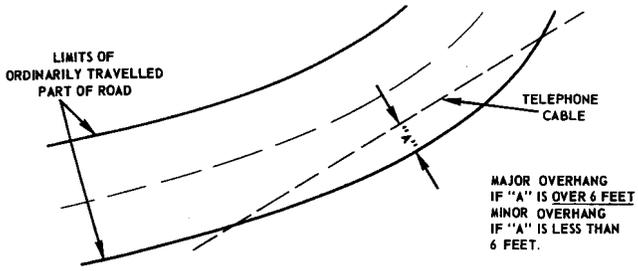

Fig. 4—Overhang—Running Along Public Roads
1.06 Note that greater clearance is required for cable overhanging the travelled part of roads than for cable when no overhang is involved. Also, a distinction has been made between "major" and "minor" overhang as shown in Fig. 4. In the light